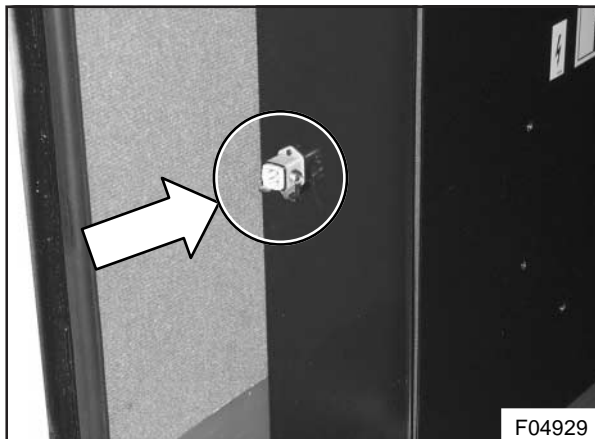

Figure 1 : Socket on the left outside panel of the main junction box
1. Effective as from units VIN43138 (Cummins) and VIN43662 (Detroit Diesel) a separate socket has been introduced on T2100 Series coaches, allowing the use of an external 24V DC source to power some of the interior lighting circuits. This accessory is located on the left-hand outside panel of the main junction box electronics section (see Figure 1). With the socket connected to a suitable power cable, the fluorescent aisle lights are switched on automatically.